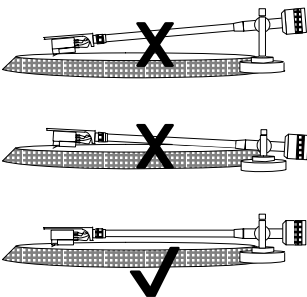

Figure 7. Level Tonearm
**Hi-Fi Setup:** For maximum fidelity and minimal record wear, position the cartridge using an alignment protractor or the overhang gauge supplied with your turntable. Level your tonearm (See Figure 7). Use Table 2 and "Setting a Precise Tracking Force", below, to set the typical tracking force for your cartridge. Set the anti-skate control to the same number as the tracking force.